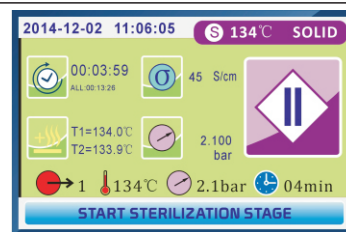

Fig.5.3-26
5.3.2.5. THE START STERILIZATION STAGE (Fig.5.3-26)